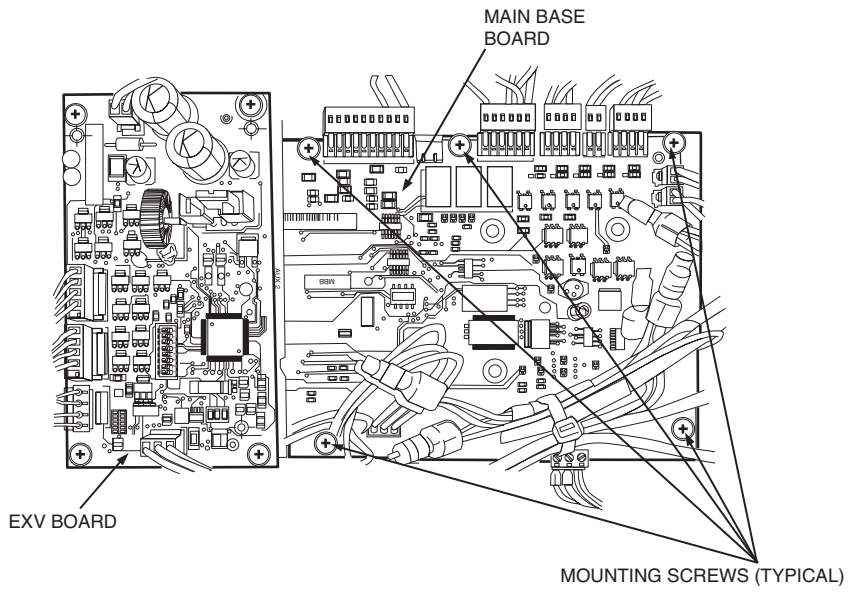

Fig. 1 — Location Above Main Base Board for EMM Mounting
3. The energy management module board is installed over a pattern of six holes through which the main base board is mounted. Remove the screws shown in Fig. 1 and save for later use.